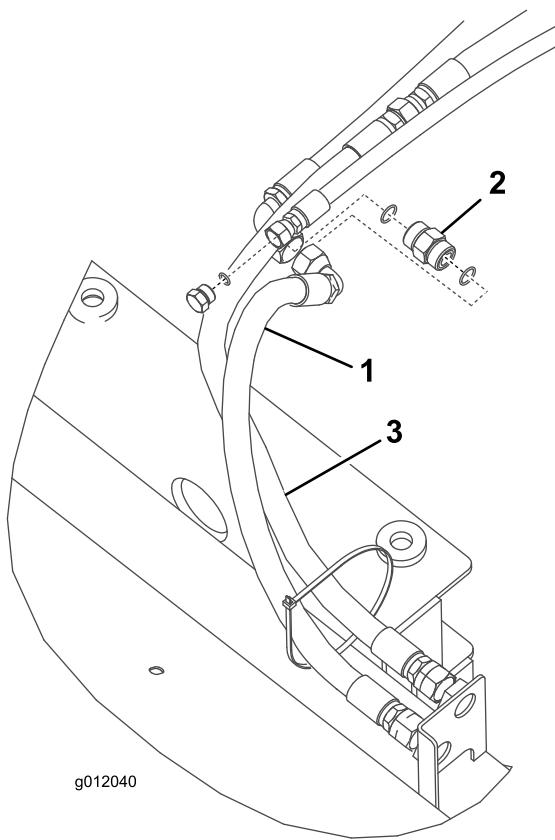

Figure 13
1. Connect the (2) extension hoses (Figure 13) to the large traction unit hoses as follows:
2. Route and connect the extension hoses (Figure 13 and Figure 15) to the broom bulkhead fittings as follows: